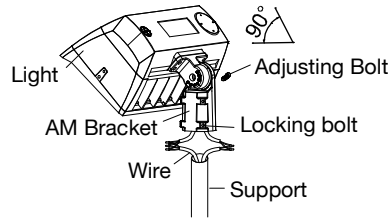

Figure 7
**1. Adjustable fitter mounting (AM)**
**STEP 1:** Connect the wire correctly and put the wire into pole. Then fasten the locking bolts between slip fitter and the pole. (FIGURE 7)